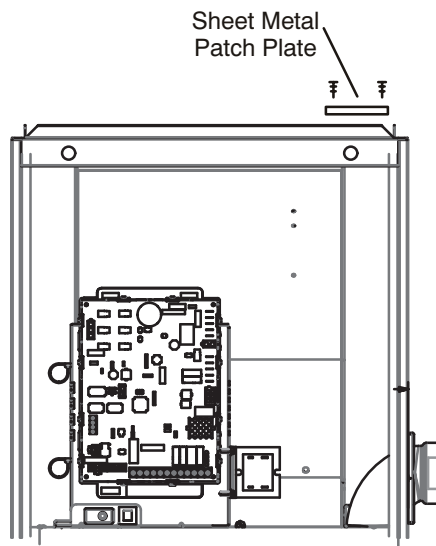

FIGURE 14
- 8 - Re-use the patch plate to cover the hole in the top cap. See figure 14. Remove the 2 screws which secure the top cap to the furnace on the right side and re-install securing the right edge of the patch plate and the right side of the top cap to the furnace. Use 2 self-drilling sheet metal screws (provided) to finish securing the left edge of the patch plate on the left side.